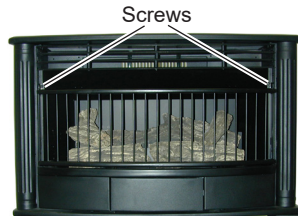

Figure 2 - Removing Screen
1. Remove two screws in the upper corners of the screen (one on each side, see Figure 2). Lift and pull forward to remove.